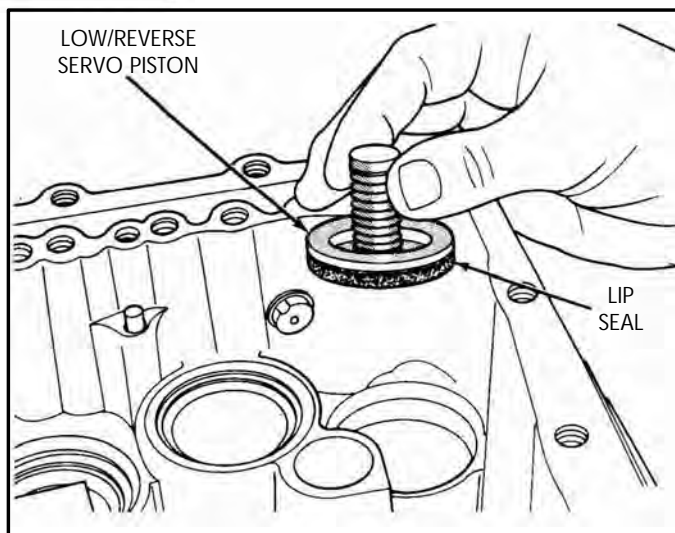

Figure 216
11. Install new lip seal onto the low/reverse servo piston, with the lip facing down, as shown in Figure 216.
12. Lubricate the lip seal with a small amount of Trans-Jel® and install into the case servo bore, as shown in Figures 216 and 217.